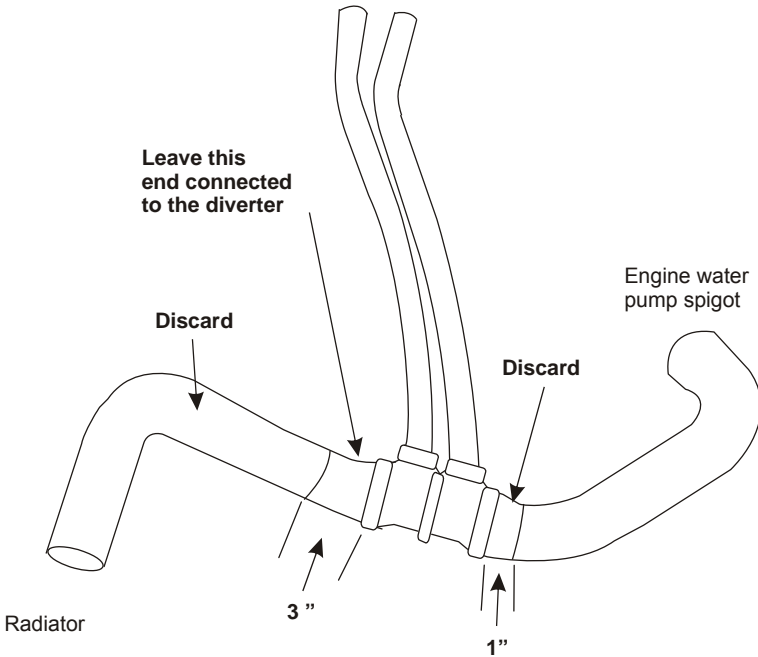

Figure 1.2
- Cut 1 inch (25mm) from the diverter end of the water pump hose and discard this piece of hose (Figure 1.2).